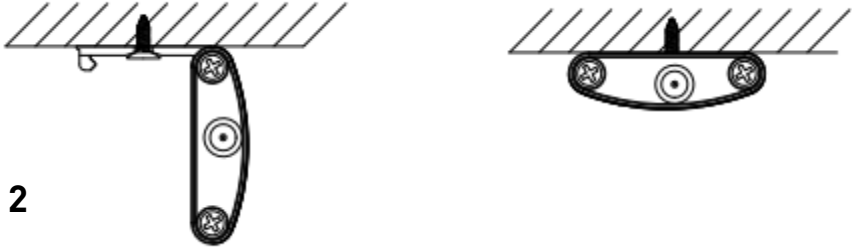

Fig 2
- Pull the tape away and fix the mounting plates with the 2 x M3 screws provided into the selected position ensuring not to infringe with any joists, gas/water pipes or electrical cables (see Fig 2)